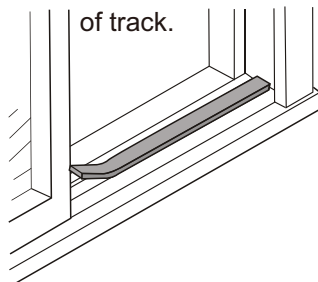

FIG.9
- 7** Peel off protective backing from track seal. Apply seal to room side of window track (FIG.9). Center of seal strip should coincide with the line marked in Step 5. The two screw holes drilled in Step 6 should be directly above seal strip in the inner track.